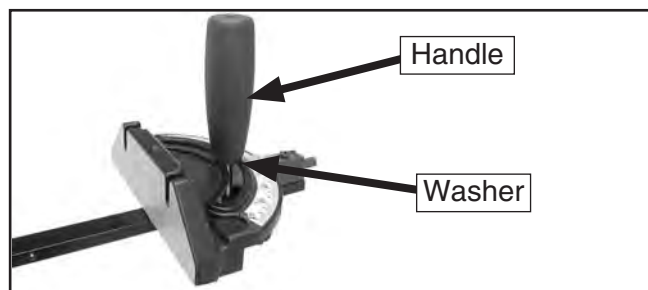

Figure 31. Miter gauge installed.
30. Install the miter gauge handle and 8mm flat washer onto the miter gauge, as shown in **Figure 31**.